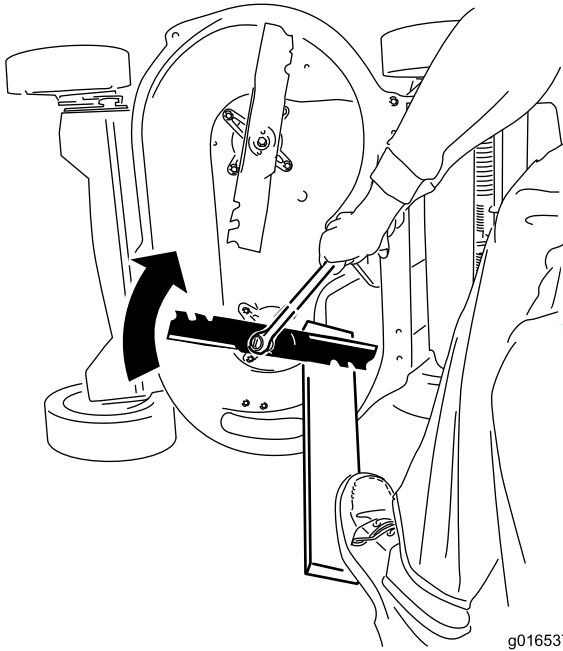

Figure 34
- Steady each blade with a board and turn the blade bolt clockwise with a torque wrench as shown in Figure 34; torque each blade bolt to 82 N-m (60 ft-lb).